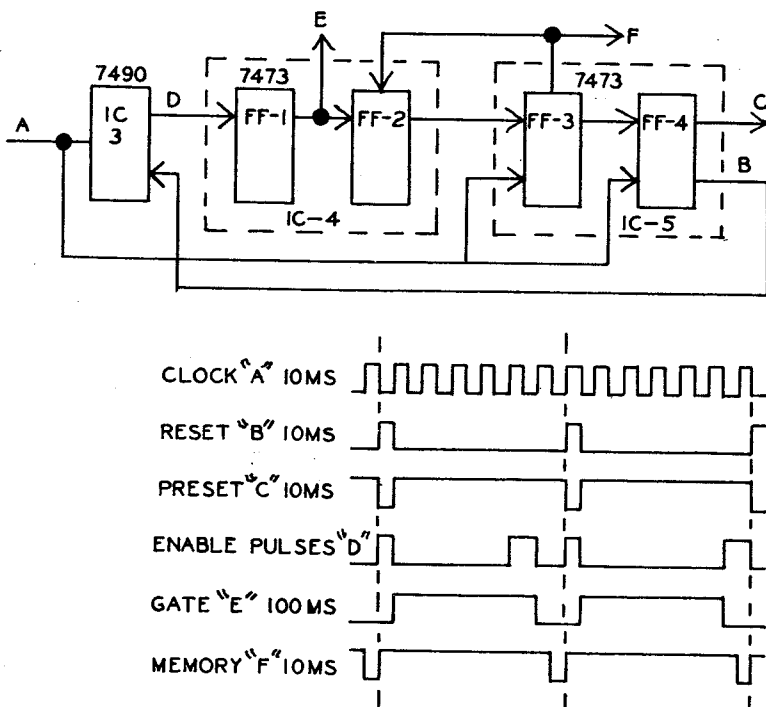

Figure 3
**TIMING PULSE SEQUENCER** This section, along with the CLOCK, is the heart of the ATLAS DD6C, since precise pulses are required at various points within the counter. The TIMING PULSE SEQUENCER is composed of ICs #3, #4 and #5, as shown in figure 3, a partial schematic and wave form chart covering two timing cycles. As you read this section study figure 3; the LETTERED POINTS are of particular interest in this operation.